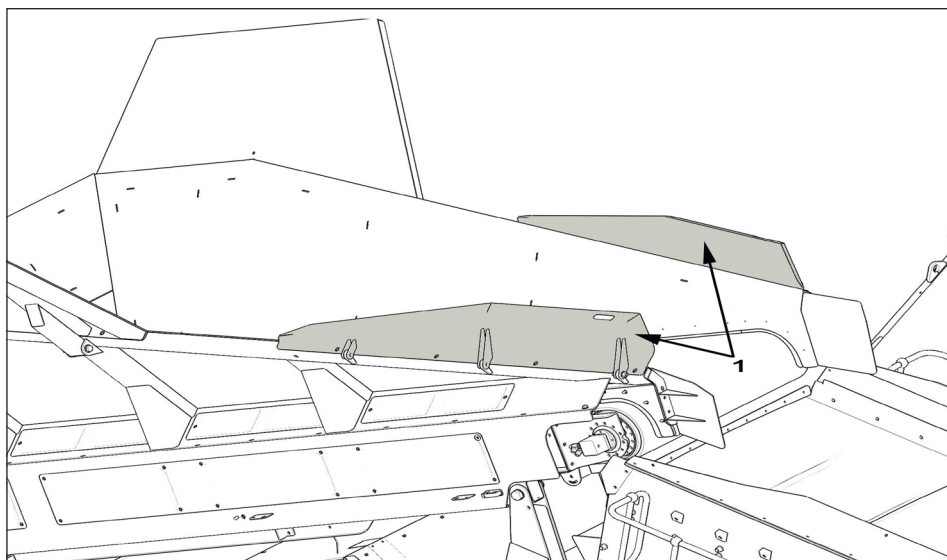

Figure 5.11 - Feeder Wing Plates
2. Remove the M16x50 bolts securing the wing plates in position Figure 5.11.